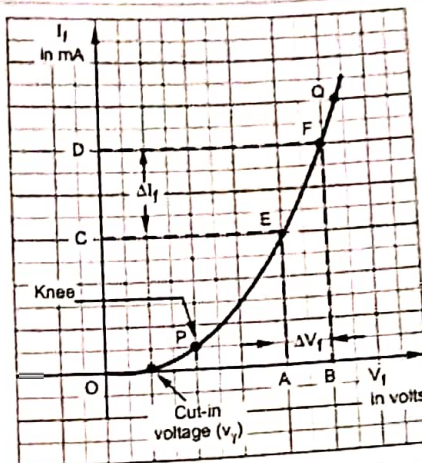

Fig. Q.6.1 Forward characteristics of a diode
• The forward characteristics of a diode is shown in the Fig. Q.6.1.
2. Region P to Q and onwards : When V_f exceeds V_f i.e. cut-in voltage, the depletion region becomes very thin and current I_f increases suddenly. This increase in the current is exponential as shown in the Fig. Q.6.1 by the region P to Q.